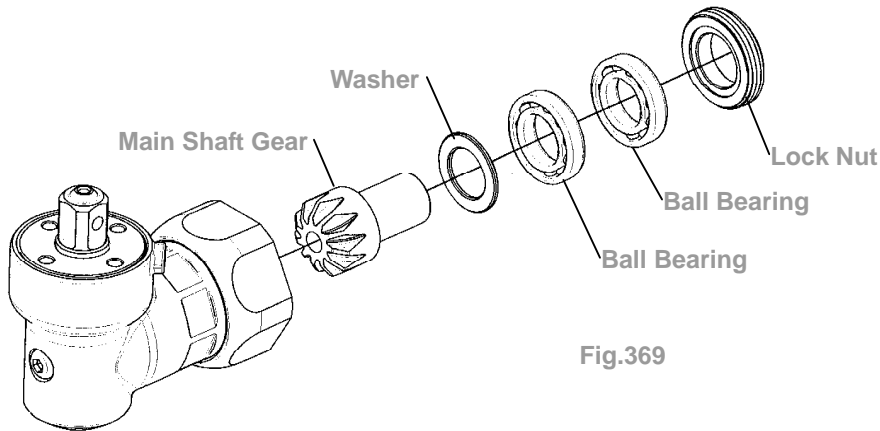

Fig.369
8.2 Assemble the parts in Fig. 369 one by one orderly into the angle housing. Then, fix the angle housing unit. Use the torque wrench and the appliance clockwise to tighten the lock nut of the main shaft gear. See Chart 61 in reference to the proper appliance selecting.